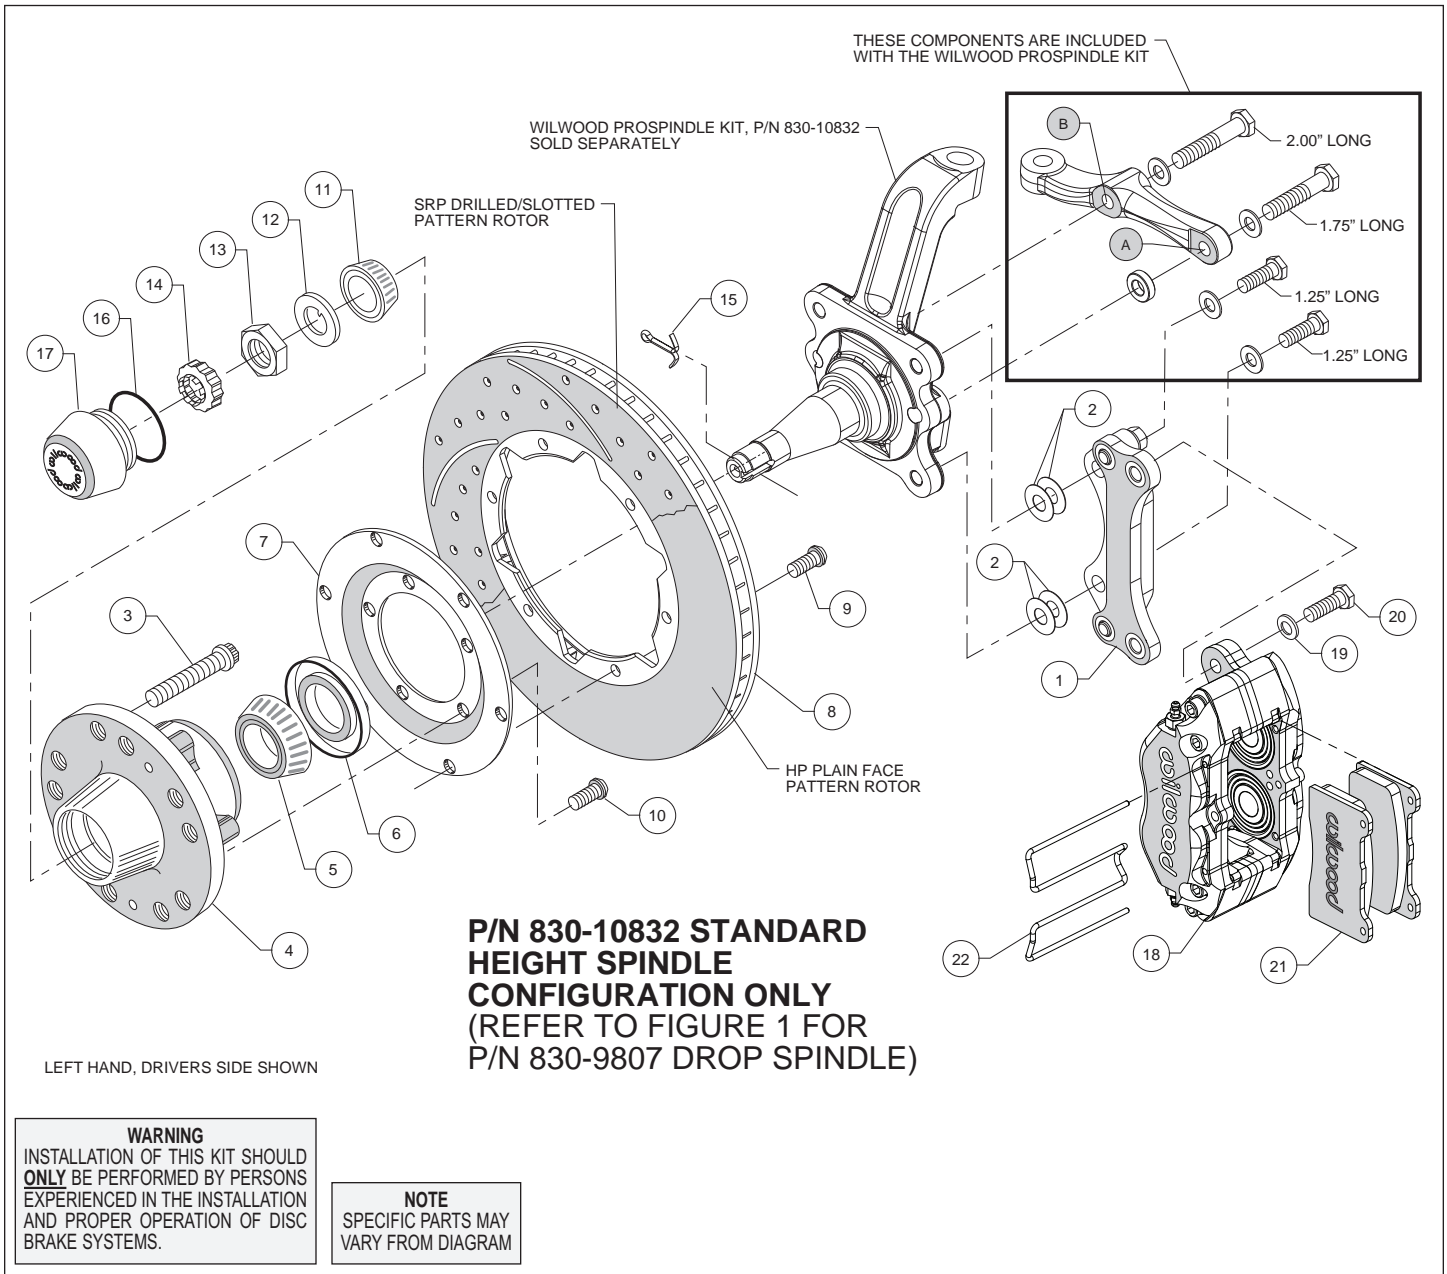

Figure 2. Installation Configuration For Standard Height Spindle, P/N 830-10832
**For Standard Height ProSpindle (P/N 830-10832):** The caliper bracket assembly (1) should initially be installed with clean, dry threads on the mounting bolts.
- Orient the bracket as shown in Figure 2 and Photo 2. Install using 1.25" long bolts and .06" thick washers (from ProSpindle kit), and two .016" thick shims (2) on each bolt between the bracket and spindle, Figure 2. Temporarily tighten mounting bolts. **NOTE: The bracket must fit squarely against the mounting points on the spindle.** Inspect for interference from casting irregularities, machining ridges, burrs, etc. Later, after the caliper alignment has been checked, the mount bolts will be secured using red *Loctite*® 271.
- Orient the steering arm, and identify the hole marked 'A', as shown in Figure 2. Install using 1.75" long bolt, .06" thick washer, and .30" thick spacer (all from ProSpindle kit), Figure 2.
- Finish attaching the steering arm through the hole marked 'B', as shown in Figure 2. Install using 2.00" long bolt and .06" thick washer (from ProSpindle kit), Figure 2.